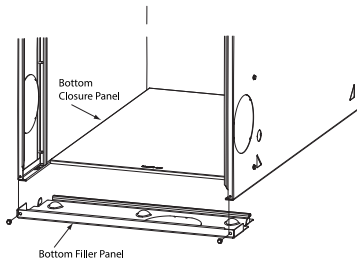

Fig. 9 – Removing Bottom Closure Panel
1. Tilt or raise furnace and remove 2 screws holding bottom filler panel. (See Fig. 9).
1. Tilt or raise furnace and remove two screws holding bottom filler panel. (See Fig. 9).